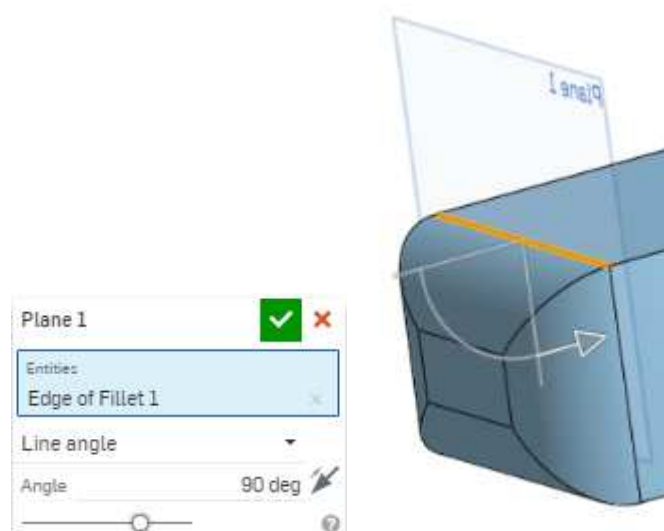

Figure 2.6: Creating a new plane from fillet edge.
| Figure 2.6: Creating a new plane from fillet edge | 7 |
- 3) Using the “Plane” tool () and select the “Edge of Fillet” as the “Entities” as shown in figure 2.6. Then select “Line Angle” from the dropdown with the “Angle” value as 90 deg. and click ok (). This will create a plane between the filleted front and the back of the Ahmed body.